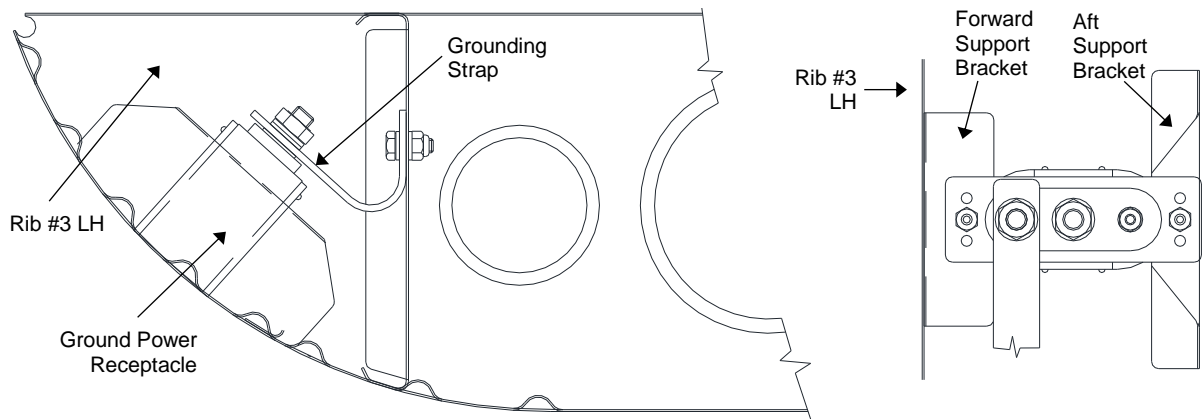

Figure 18: Ground Power Receptacle location - view looking Fwd to Rib #4 (left) and above view (right)
- 12) Remove grounding strap from the Ground Power Receptacle (See Figure 18).
- 14) Remove the Ground Power Receptacle (See Figure 18).
- 15) De-rivet and remove the Aft Support Bracket (See Figure 18).